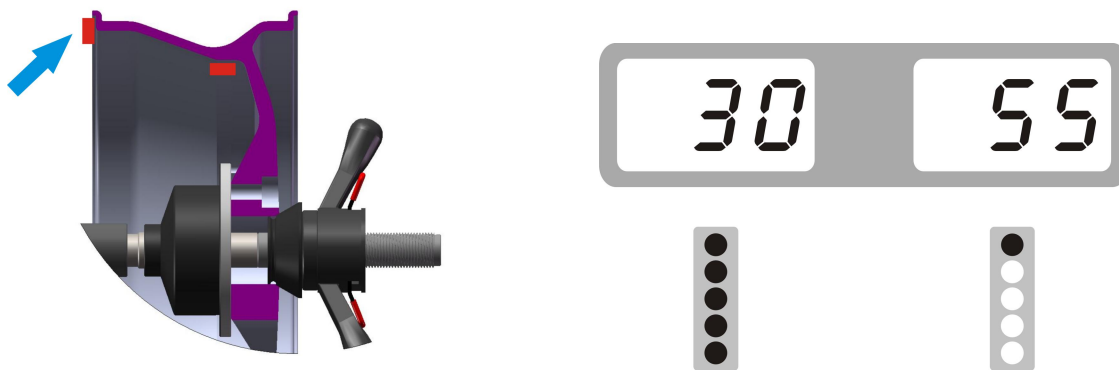

Fig. 7
4.2.6. Anticlockwise moving wheel slowly, the displays with left LED's lit up full indicate the correct angular position where to mount the counterweights, (las=on,las=off) position inside, as Fig.7, add the counterweight.